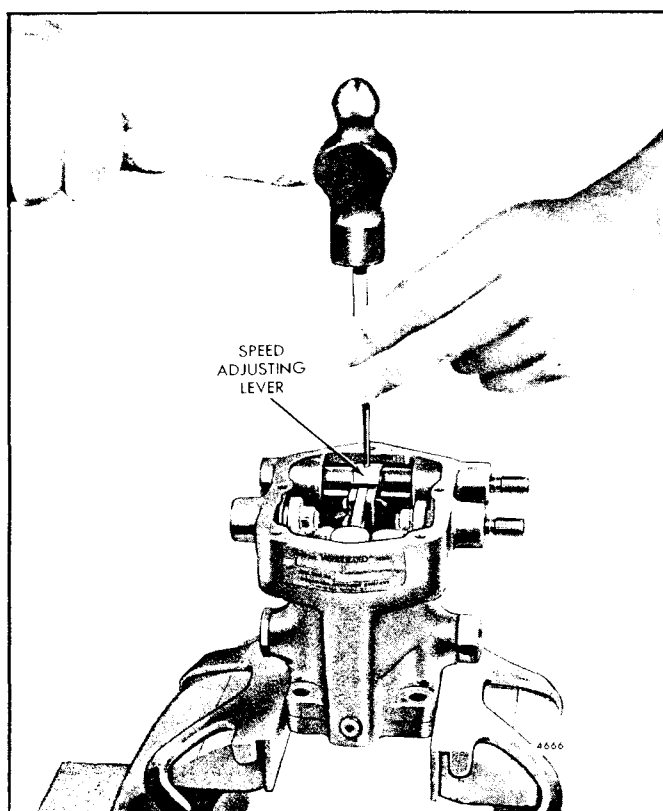

Fig. 8 - Removing Speed Adjusting Lever Roll Pin
4. Clamp the governor housing and base assembly in a bench vise equipped with soft jaws (Fig. 8).
8. Remove the speed adjusting lever roll (spring) pin from the speed adjusting lever and the lever shaft with a small punch and hammer as shown in Fig. 8.